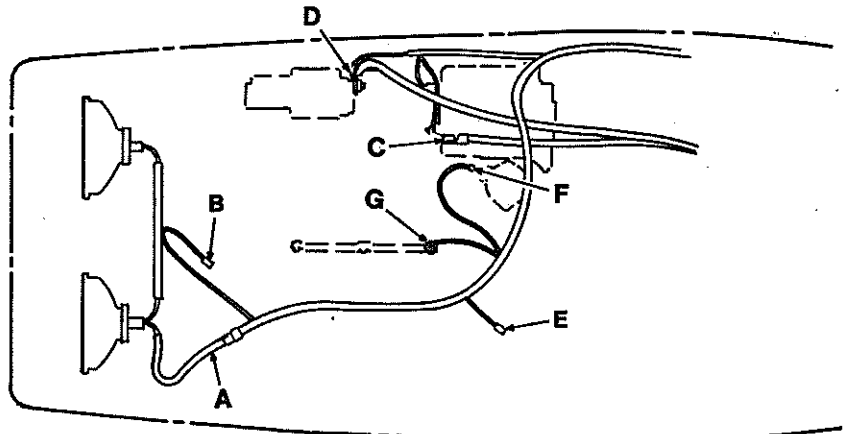

Fig. 7-13
1. Disconnect main wiring harness from headlight harness (A, Fig. 7-13), electric clutch (B), alternator (C), starter (D) and engine connections: oil pressure sender (E), water temperature sender (F) and glow plugs (G). Use care to mark wiring at alternator and starter to avoid confusion when re-connecting. (Note routing of harness around engine compartment and location of cable ties prior to removal. This will aid in installation later on.)